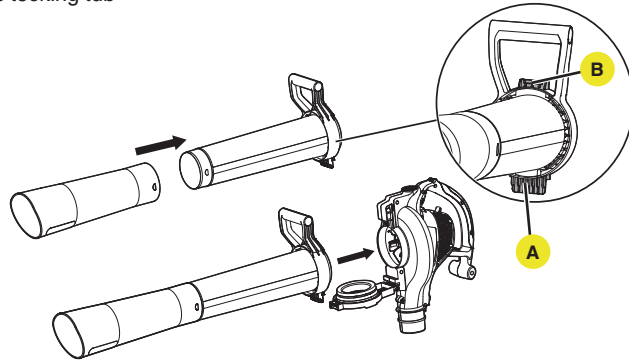

Fig. 3
- With gate open, align tabs on vacuum tube with opening inside gate. (Fig. 3)